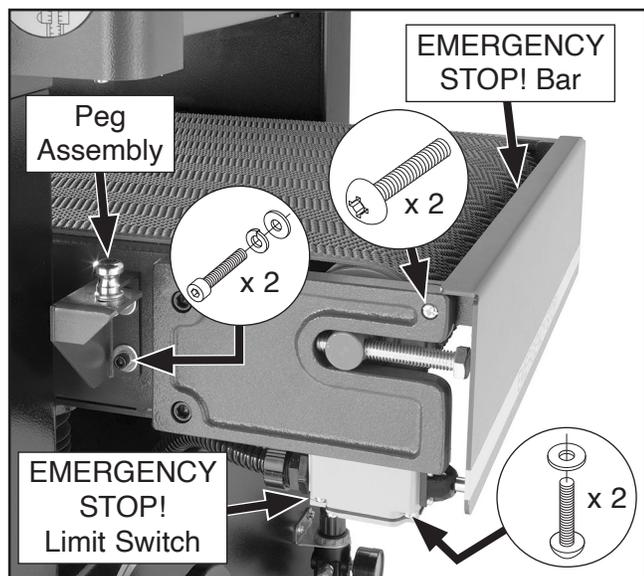

Figure 111. Front table components to remove.
10. Remove (4) Phillips head screws shown in **Figure 111** to remove EMERGENCY STOP! bar and limit switch from front of conveyor table.
11. Remove (2) cap screws and washers shown in **Figure 111** to remove peg assembly.